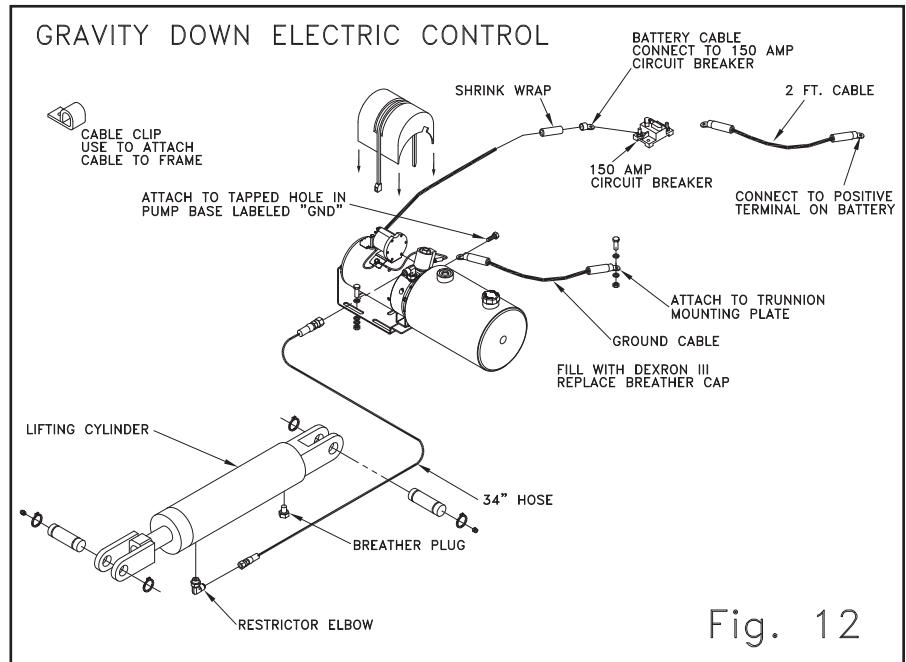

Fig. 12
Step 14 Install the fittings in the cylinder and pump. Install hoses and hose clamps and fill reservoir with Dexron III. Attach the ground cable to the tapped hole in the pump base labeled "GND" & trunnion mounting plates using the .38 hardware provided with the internal tooth lockwashers. See figures 12 and 13.
Step 15 Fasten the 150 AMP circuit breaker provided within 2 ft. of the truck battery. Route the battery cable from the liftgate toward the 150 AMP breaker. AVOID SHARP CORNERS AND HIGH HEAT AREAS. Use cable clips provided to secure the cable to the truck frame every 2 feet. Cut the cable to the desired length and strip .88" of insulation from the end. Slide the pre-cut heat shrink over the end of the cable. Secure the cable lug in a vise and apply heat to the connector and insert the cable as the solder melts. Allow connector to cool and install the heat shrink. Attach this end to one terminal on the 150 amp circuit breaker. Install heavy ground cable from negative batter terminal to the frame. Wire the breaker to the truck battery using the 2 ft. cable provided. See figures 12 and 13.